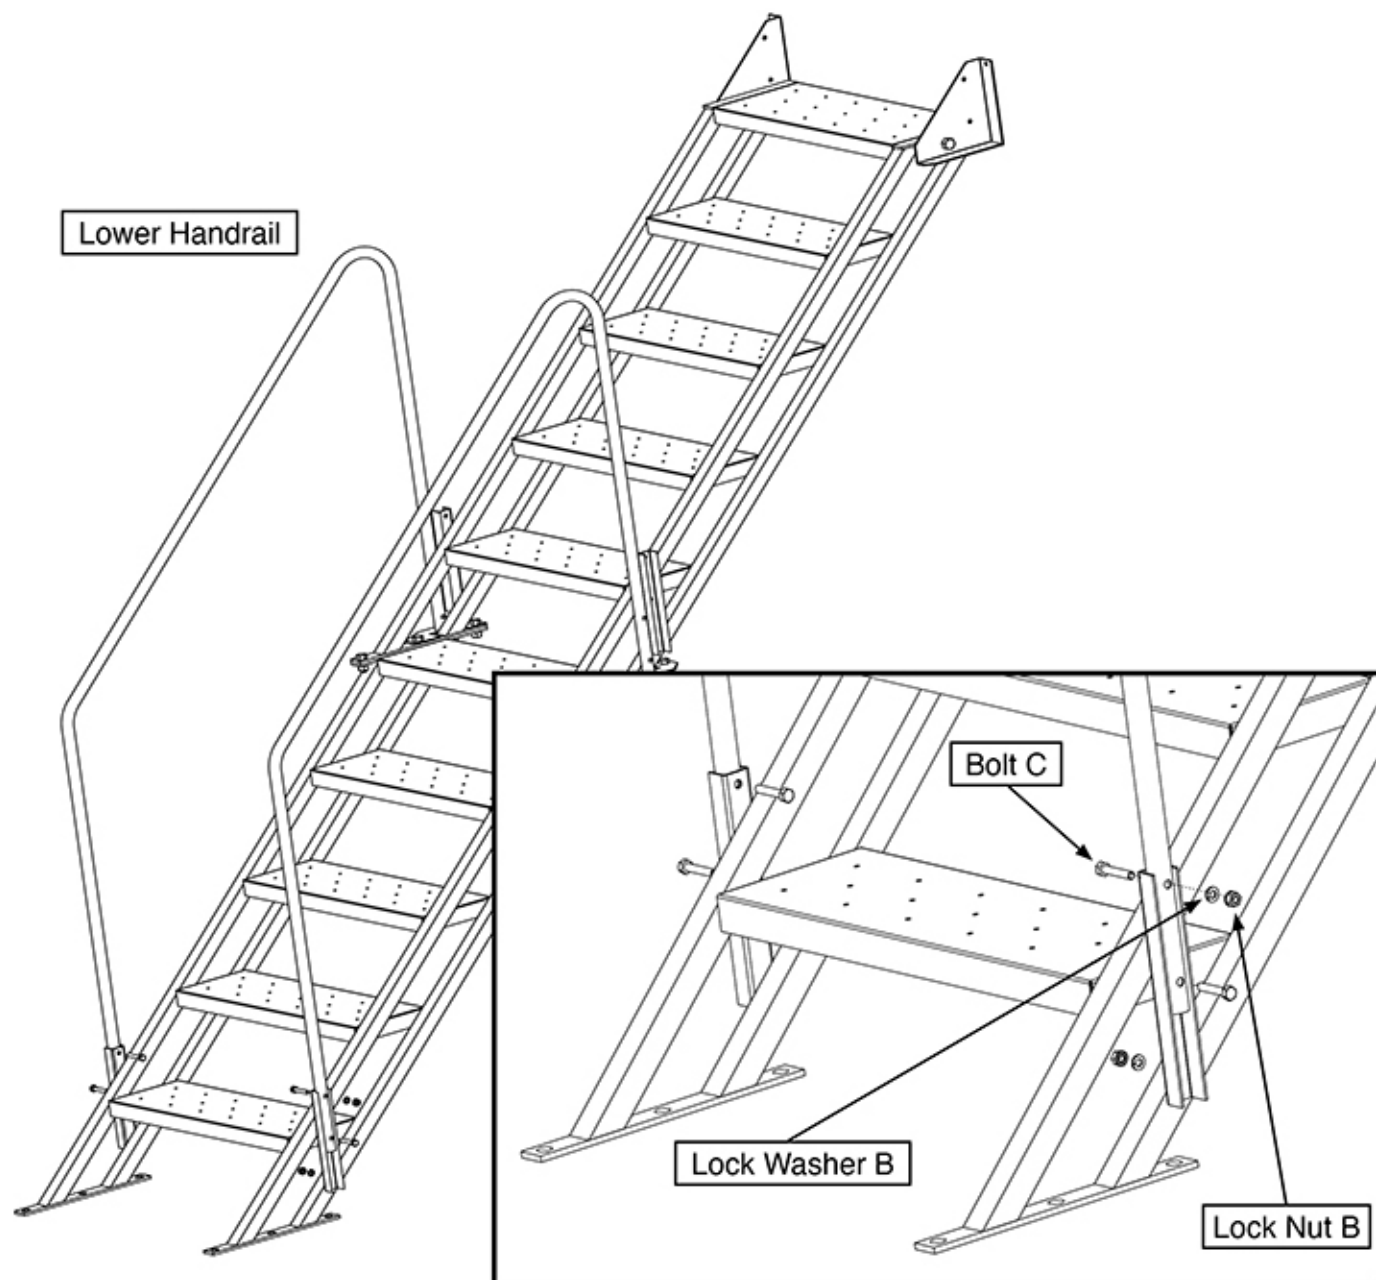

Figure 3
Step 3: Attach the bottom of the **Lower Handrails** to the bottom of the **Lower Stair Assembly** using Bolt C, Lock Washer B, and Lock Nut B. Install (2) bolts per side. Note that the lowest bolt on each side is installed from the outside in. Tighten all the following hardware securely. (Figure 3)